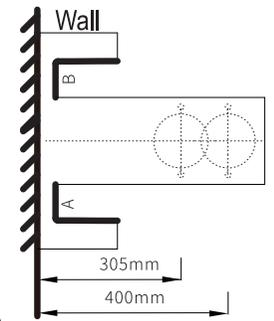

Figure 1
1. Fix the center line of the installation board to the sewage outlet, and fix it with transparent tape around; draw the corresponding outline according to the position of the thick line at the installation board A and B, and remove the installation board. As shown in Figure 1.